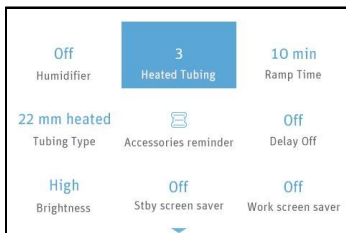

Fig. 16-4
**Note:** The **Heated Tubing** option can only be adjusted when the device is connected to a heated tubing, as shown in Fig. 16-4.